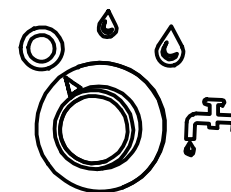

Fig. 3: Solution Flow Switch off
3. Turn the solution flow switch to off position. (See Fig. 3)